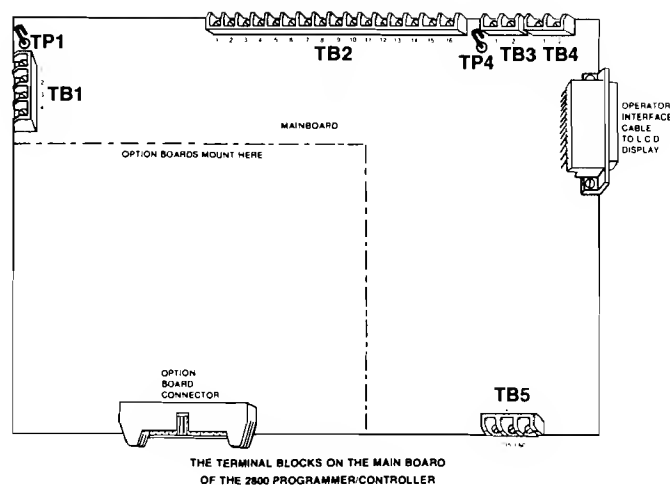

FIGURE 9A
6. Locate TP1 and TP4 on the main board. See Figure 9A.